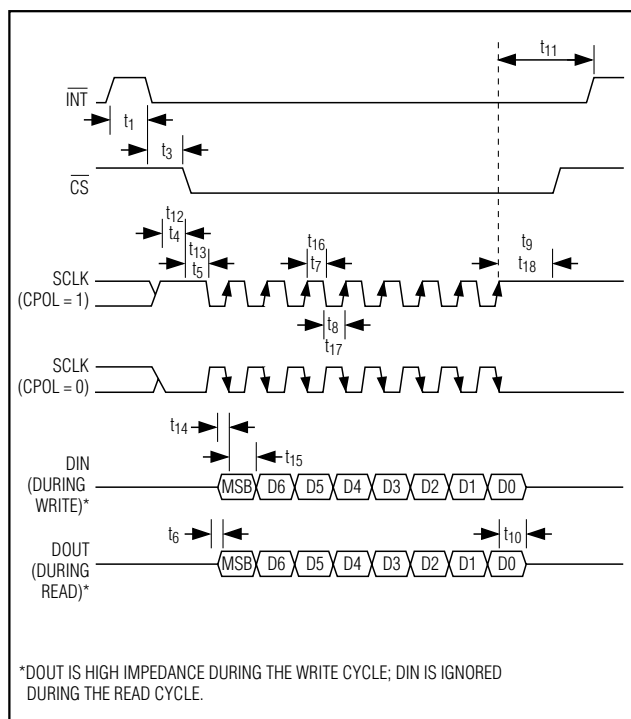

Figure 4. Serial-Interface Timing
**Note 20:** See Figure 4.
The serial interface consists of five signals:  $\overline{CS}$ , SCLK, DIN, DOUT, and  $\overline{INT}$ . Clock pulses on SCLK shift bits into DIN and out of DOUT.  $\overline{INT}$  provides an indication that data is available.  $\overline{CS}$  is a device chip-select input as well as a clock polarity select input (Figure 4).